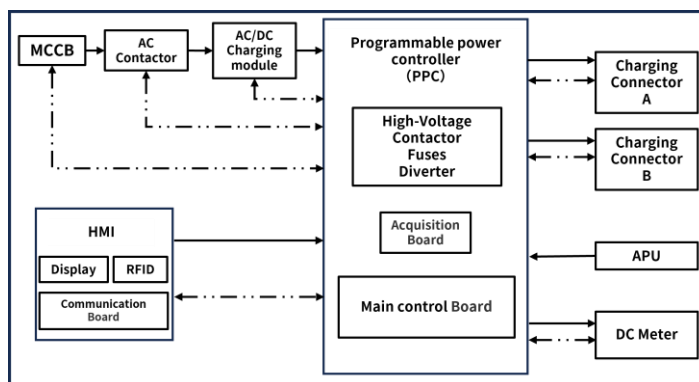

Fig. 4-2 Block diagram of Ampax
- The block diagram of Ampax DC Fast charging station shown as Fig. 4-2.